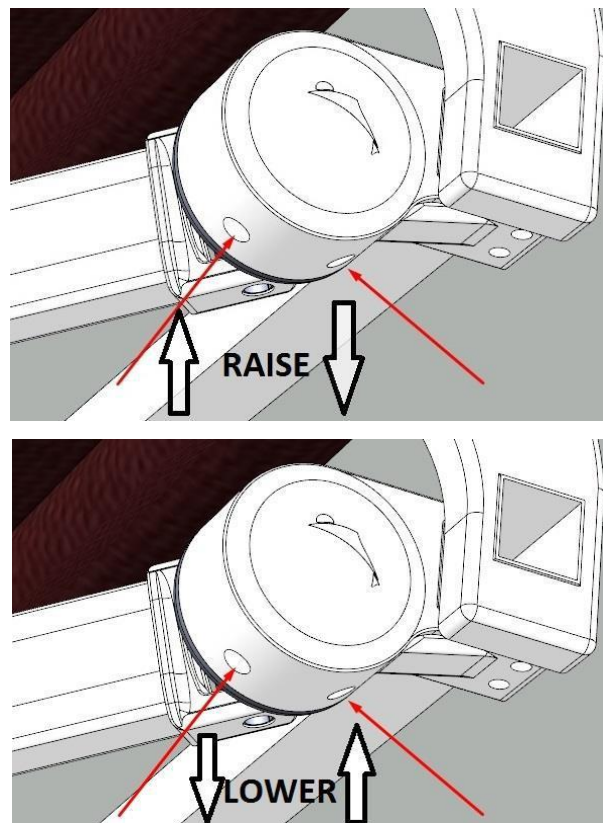

Figure 16
**Have your helper lift the front bar several inches above the desired height.** There are 2 set screws under the arm support. The one **closest to the house prevents the front bar from going higher** and the one **farthest from the house prevents the front bar from going lower.** See figure 16.